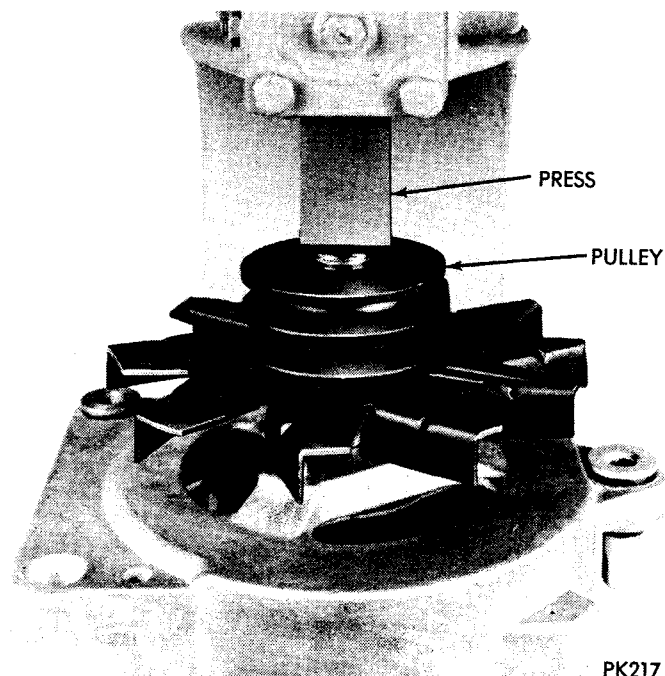

Fig. 61—Installing Drive Pulley
(5) Install pulley on rotor shaft. Shaft of rotor must be supported in a manner so all pressing force is on pulley hub and rotor shaft (Fig. 61). **Press pulley on rotor shaft until pulley contacts inner race of drive**